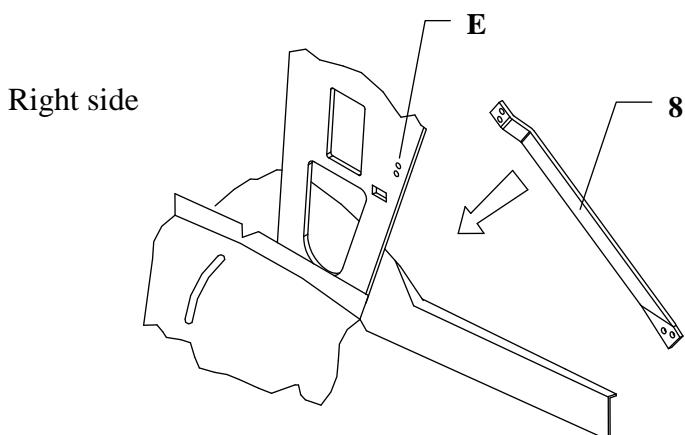

Fig. 2 Apply reinforcement to original holes in trunk's construction
3. Find original factory made holes pos. E in elements of car construction. Apply side reinforcements (pos. 8 – on the right side and pos. 9 – on the left side) in this way so holes in reinforcements tally with holes in construction of a trunk as shown in figure 2.